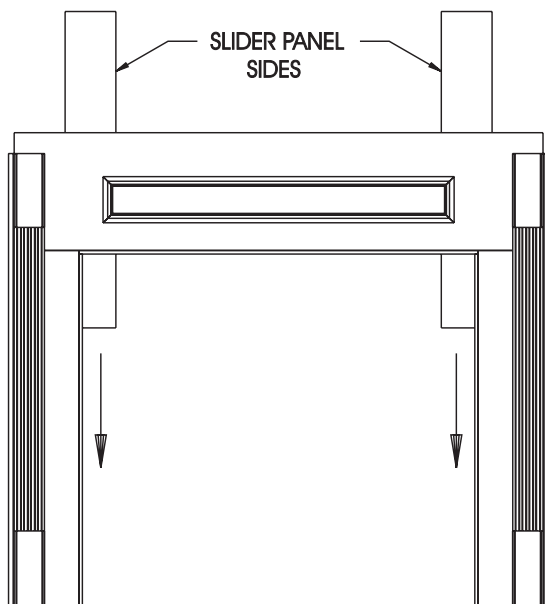

Figure 4
* NOTE: When installing a (A)DVD 32" and 36" Direct Vent Fireplace, a 1" clearance must be maintained from the top edge of fireplace to slider panel
- Insert slider panels into pocket slot with cut edge down (See Figure 4).